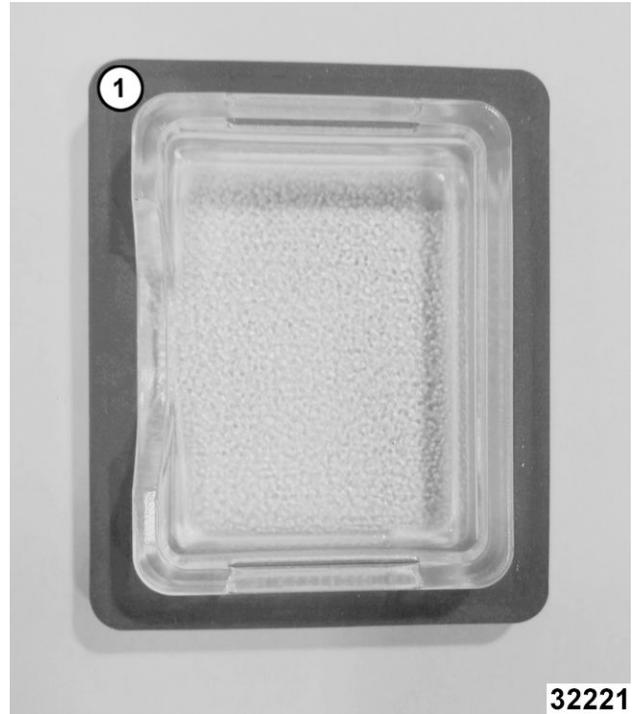

Fig. 53
**NOTE:** Verify gasket (1, Fig. 53) is flat on lamp cover and not damaged.